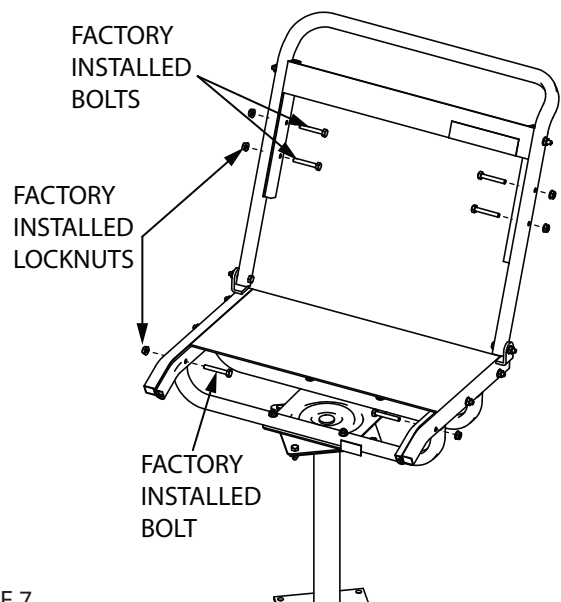

FIGURE 7
8. For assembly of the armrests and shooting rest, you must first remove the "front" (2) bolts/nuts from factory assembled seat frame and the "bottom" (4) bolts/nuts from factory assembled backrest frame. Discard this hardware. **SEE FIGURE 7**